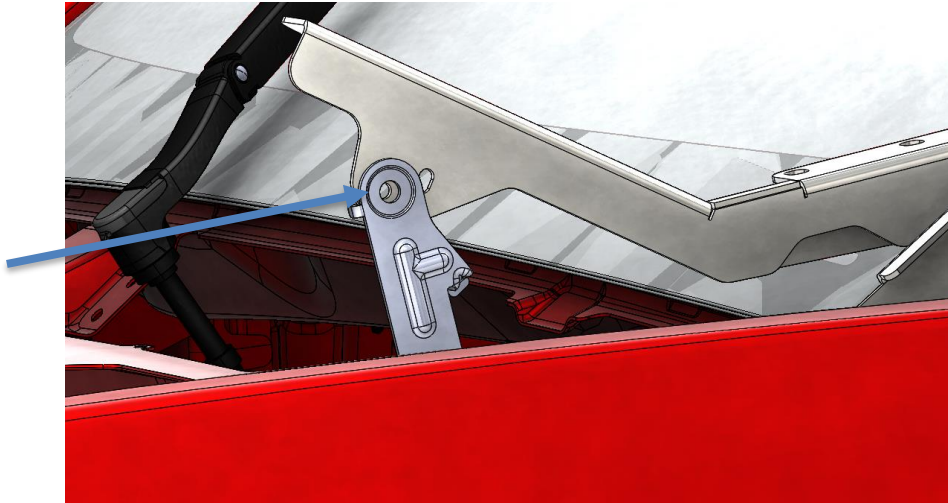

Fig 7
1. Bolt the hood spring assist arm to the Upper arm of the hood hinge using the factory bolt and included stainless steel flat washer and M8 Nylock nut as shown in **Fig 7**.